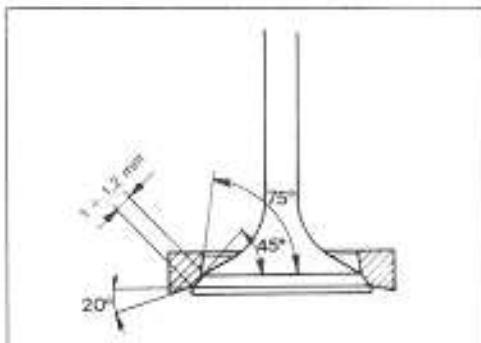

Fig. 53
- A rettifica eseguita la superficie di contatto tra valvola e sede deve avere una larghezza di $1 + 1,2$ mm (Fig. 53).
- The valve seat angle is 45°. The seat should be radiused according to figure 53. Take care to remove the slightest amount of material when re-cutting the valve seats.
- After this operation the width of the valve seating surface should be $1 + 1,2$ mm (Fig. 53). Coat the seat with a thin film of aniline dye, install the valve in its guide and rotate it holding it in contact with the seat, to make the seating surface clearly visible.